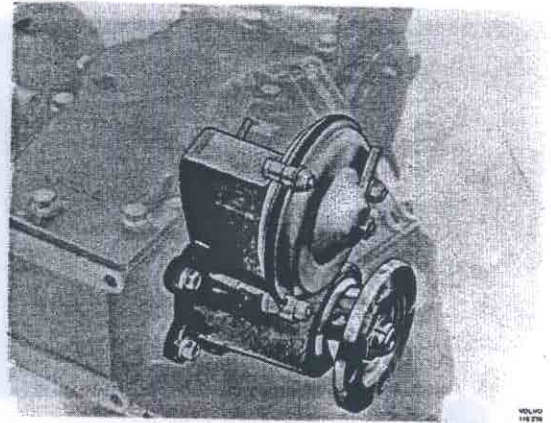

Fig. 43-197. Fitting control mechanism
11. Coat the control mechanism contact surface with sealing agent and fit it securely in the auxiliary gearbox, see Fig. 43-197. Tighten the bolts to a torque of 20-25 Nm (2.0-2.5 kpm = 14-18 lbftf).